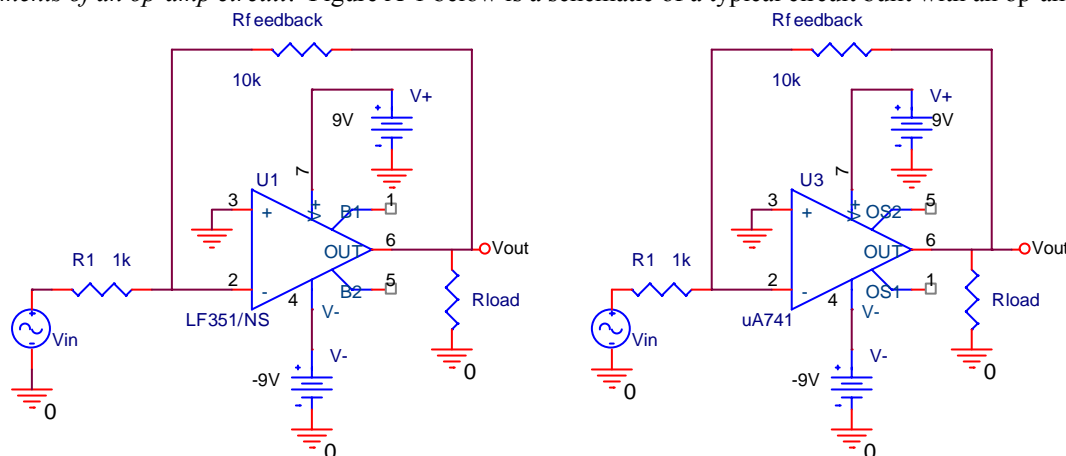

Figure A-1, Drawn with both 741 and a LF351 op-amps
*Elements of an op-amp circuit:* Figure A-1 below is a schematic of a typical circuit built with an op-amp.